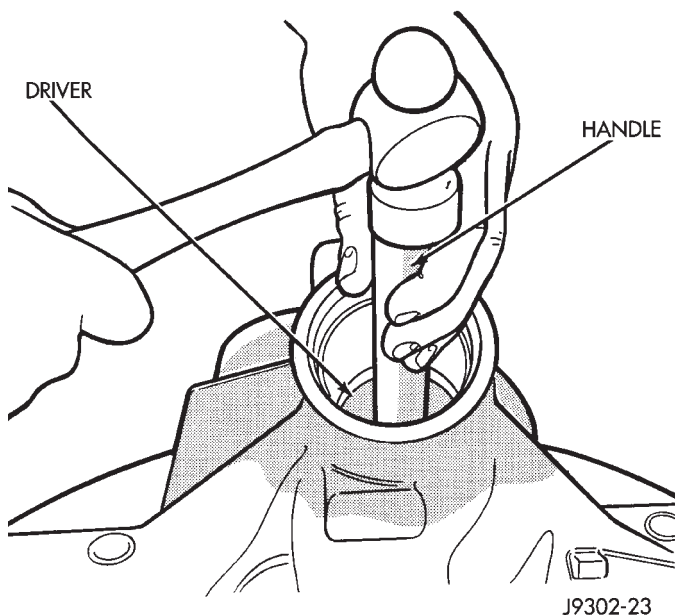

Fig. 40 Rear Bearing Cup Removal
(10) Remove the rear bearing cup from housing (Fig. 40). Use Remover C-4307 and Handle C-4171.